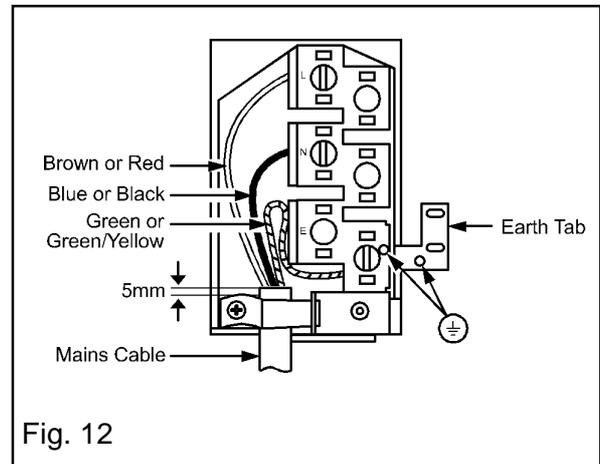

Fig. 12
- Make connection as shown in Fig. 12 by proceeding as follows:-
- Clamp the mains cable securely ensuring 5mm of the outer insulation is inside the terminal block and that the wires are not taugt but not so slack as to cause any fouling. See Fig. 12.